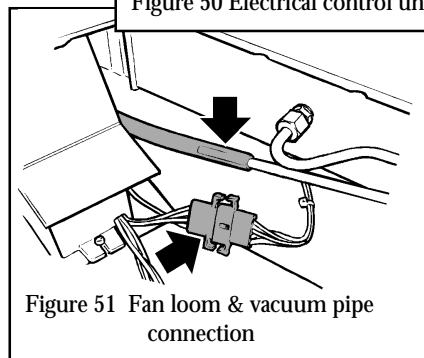

Figure 51 Fan loom & vacuum pipe connection
16.9.3 Detach the fan wiring loom connection. (see figure 51).
16.9.4 Detach the plastic vacuum tube from the metal vacuum pipe (see figure 51).